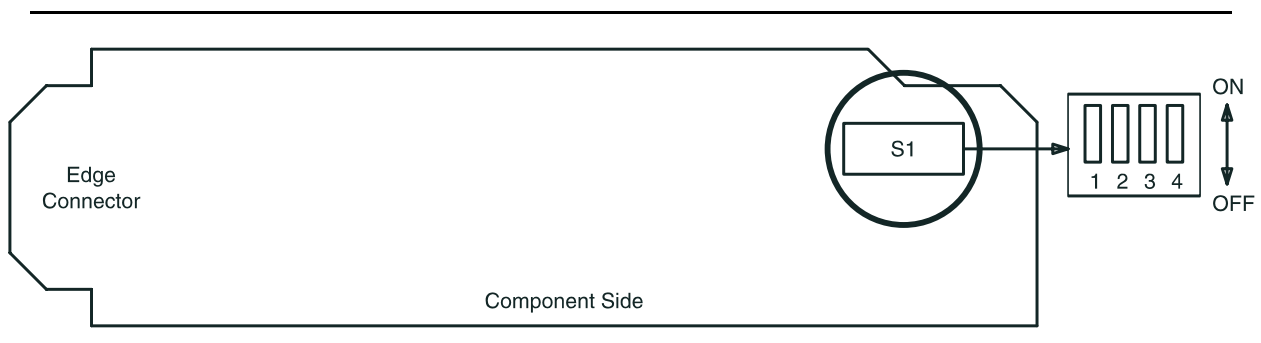

Figure 3. BBF8 HDSL Control Switch
23. Set **HDSL** option switches per Table E and Figure 3.